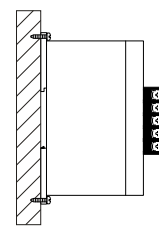

Fig. 3
4. For wall mounting ,pull both bottom and top tabs to their extended position. Then use screws to attach unit to the wall as shown. (Fig. 3)